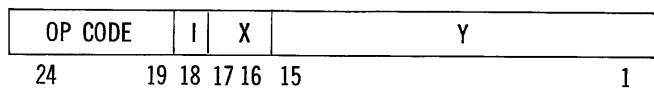

Figure 3-1. Instruction Diagram.
A diagram representing the format of the Instruction Command Word is given for each instruction. Preceding the diagram is the mnemonic code for the instruction and its name. See Figure 3-1.
Each instruction diagram is divided into four fields representing the Operation Code, Indirect Address (I), Index Address (X), and Base Operand Address (Y) portions of the instruction. The small numbers below each diagram designate the bits which each field occupies in an instruction word. See figure 3-1.